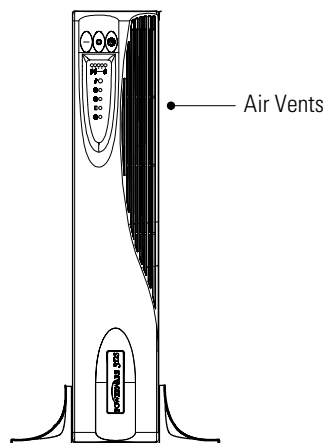

Figure 6. UPS Cabinet with Pedestals
3. Carefully position the unit upright with the air vents at the top (see Figure 6).